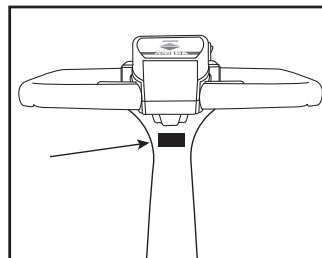

Figure 5A
- 1) Back side of tiller underneath handle enclosure (forward/reverse levers) (Figure 5A)